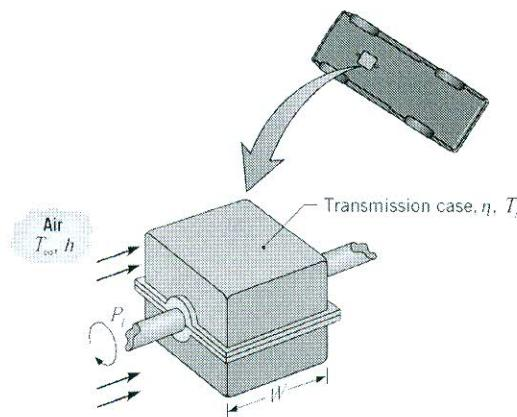

Figure 7: Transmission case on car
- [b] A transmission case measures  $W = 0.30 \text{ m}$  on a side and receives a power input of  $P_i = 150 \text{ W}$  from the engine. If the transmission efficiency is  $\eta = 0.93$  and air flow over the case corresponds as in Figure 7. The temperature at  $T_\infty = 30^\circ\text{C}$  and  $h = 200 \text{ W.m}^{-2}.\text{K}^{-1}$ , compute the surface temperature of the transmission?